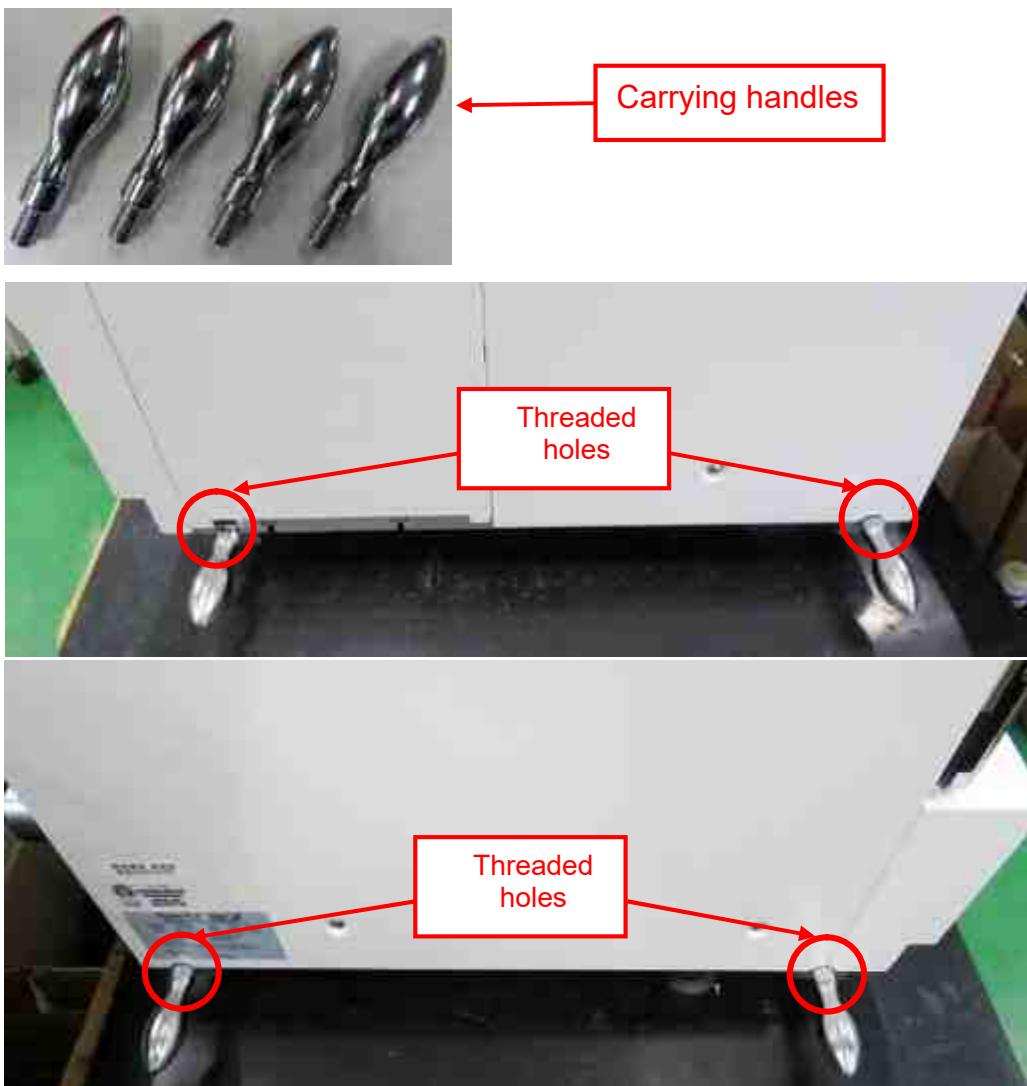

Fig. 9-1 Threaded hole locations and carrying handles
- (1) If it is allowed to move the instrument by a hand pallet truck, move the instrument close to the installation place as it is on the pallet.
- (2) Screw the carrying handle into each threaded hole located at the bottom of each side of the instrument. (See Fig. 9-1 for the threaded hole locations and carrying handles.)
- (3) Grip the carrying handles, carefully lift the instrument up and move to the installation place.